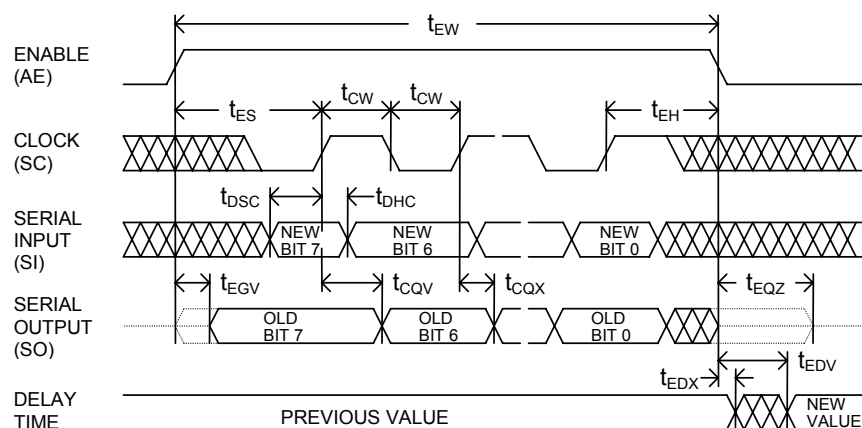
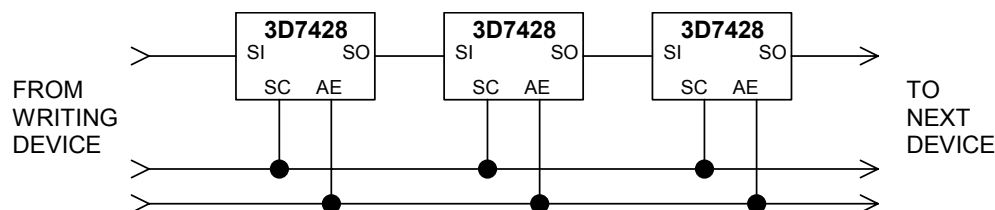

Figure 4: Serial mode (MD=0)
Figure 5: Cascading Multiple Devices
While observing data setup (t_{DSC}) and data hold (t_{DHC}) requirements, timing data is loaded in MSB-to-LSB order by the rising edge of the clock (SC) while the enable (AE) is high, as shown in Figure 4. The falling edge of the enable (AE) activates the new delay value which is reflected at the output after a settling time t_{EDV} . As data is shifted into the serial data input (SI), the previous contents of the 8-bit input register are shifted out of the serial output port pin (SO) in MSB-to-LSB order, thus allowing cascading of multiple devices by connecting the serial output pin (SO) of the preceding device to the serial data input pin (SI) of the succeeding device, as illustrated in Figure 5. The total number of serial data bits in a